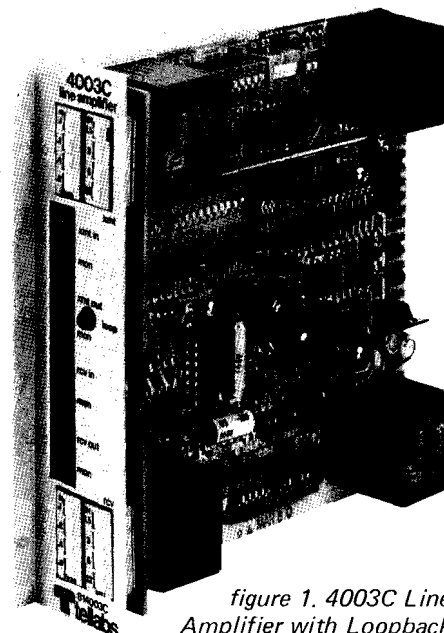

figure 1. 4003C Line Amplifier with Loopback
1.01 The Tellabs 4003C Line Amplifier with Loopback module (figure 1) provides switch-selectable level control, equalization, and impedance matching in both the transmit and receive channels of a 4wire voice-frequency transmission facility. Additionally, the 4003C provides tone-activated or dc-activated equal-level loopback of the facility.